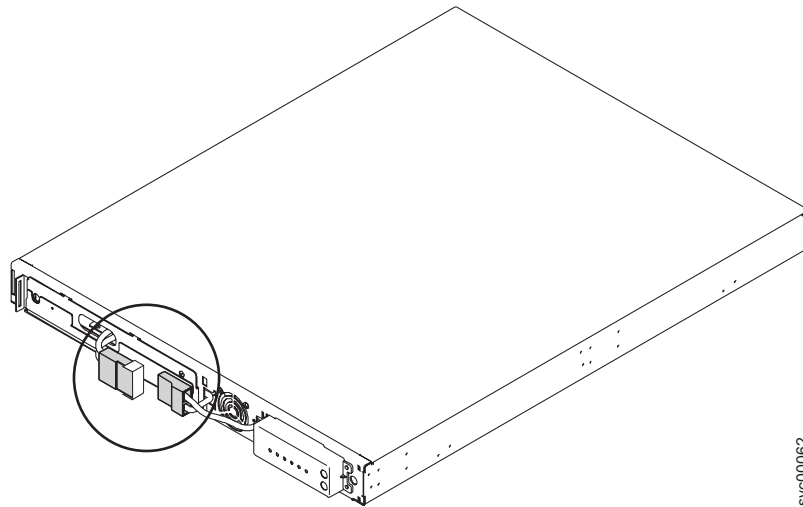

Figure 119. The 2145 UPS-1U internal battery connector with protective tape
7. After pulling the two connectors apart, cover the exposed battery connector with adhesive tape. See Figure 119 on page 289.